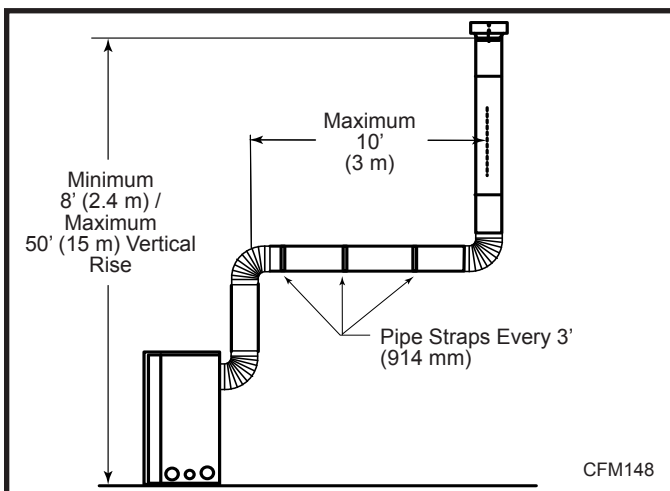

Fig. 36 Support straps for horizontal runs.
5. 7DVCS must be used to support offsets. (Fig. 36) This application will require that you first determine the roof pitch and use the appropriate 7DVSKV (A, B or F). (Refer to Venting Components List, Page 27)